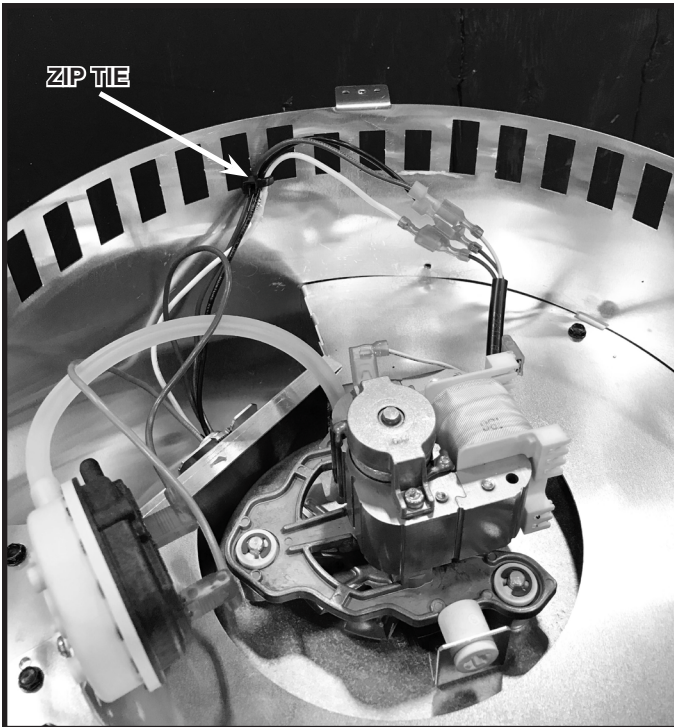

Figure 3.16
11. Use the included zip tie to secure the black, white, and green wires to the PVV-SLP housing. See Figure 3.16.